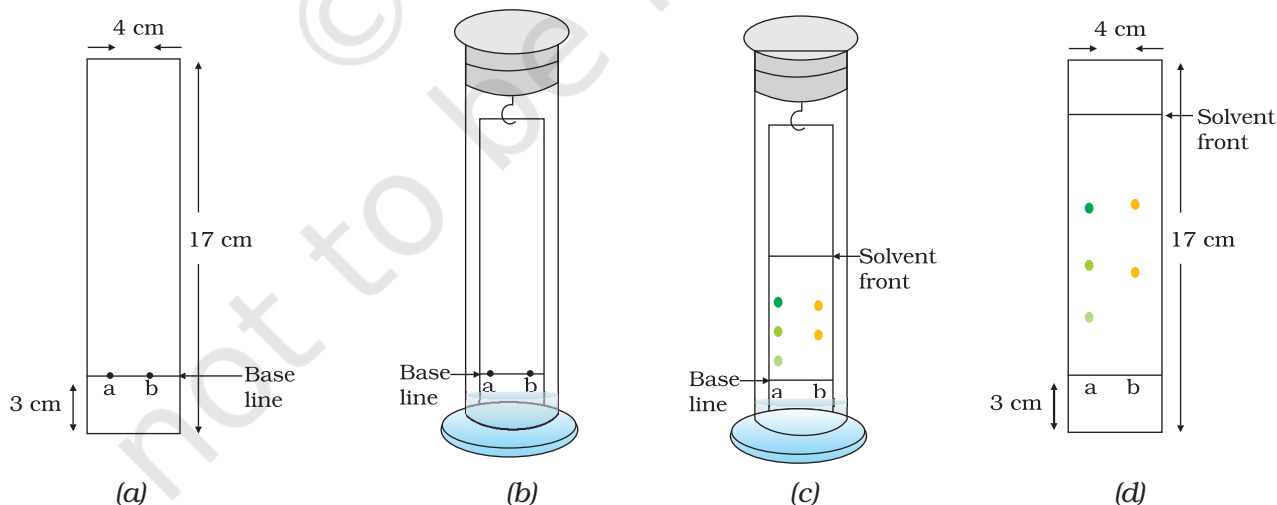

Fig. 5.1 : (a) Marked paper; (b) Dipping the filter paper in the solvent; (c) Developing chromatogram; and (d) Developed chromatogram
- (iii) Procure a Whatman filter paper No.1 of size 4 cm × 17 cm and mark a line at a distance of 3 cm from one of the ends of the paper with the help of a pencil [Fig. 5.1 (a)].
- (iv) Using a finely drawn capillary, put one spot 'a' for the extract of leaves and one spot 'b' for the extract of flowers. Allow these spots to dry as shown in Fig. 5.1 (a).
- (v) Hang the filter paper in a jar containing 20 mL mixture of petroleum ether (boiling range 60–80°C) and chloroform containing 19 mL petroleum ether and 1 mL chloroform or a mixture of petroleum ether (boiling range 60–80°C) and acetone in the ratio 9:1 (18 mL petroleum ether + 2 mL acetone) so that the solvent does not touch the reference line as given in Fig. 5.1 (b).
- (vi) Keep this jar as such till the mobile phase (solvent) rises up to 2/3 of the length of the paper [Fig. 5.1 (c)].
- (viii) Measure the distance travelled by the solvent front and the centre of different spots with respect to the reference line as given in Fig. 5.1 (d).